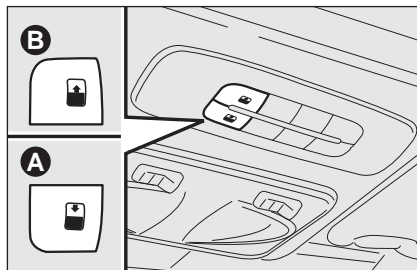
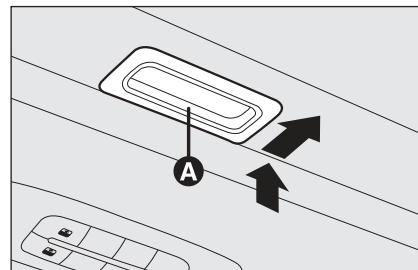

fig. 67
fig. 68
Certain versions are fitted with an armrest **A-fig. 67** between the front seats.
The large electric sunroof comprises two panes of glass, one of which is mobile and the other fixed. These are equipped with two shutters (front and rear) that can be moved manually. The shutters can be used in the “fully closed” or “fully open” positions (they have no fixed intermediate positions). To open the shutters: grip handle **A**-fig. 68, release it and move it in the direction of the arrows to the “fully open” position. To close them, carry out the procedure in reverse. The sunroof can be operated only when the ignition key is turned to **MAR**. The controls **A-B** fig. 67 on a dedicated dashboard near the front ceiling lights open and close the sunroof.
Press and hold button **B**-fig. 67, and the front pane will set to the “spoiler” position; press button **B**-fig. 67 again for over half a second to make the sunroof slide automatically to the wide open position; press the button once more to stop the sunroof at an intermediate position.
When in wide open position, press button **A**-fig. 67 for over half a second to set the front pane to the “spoiler” position; press the button again to stop the sunroof at an intermediate position; press button **A**-fig. 67 once more and hold it down to close the sunroof completely.
- press button **A-fig. 67** at close position;